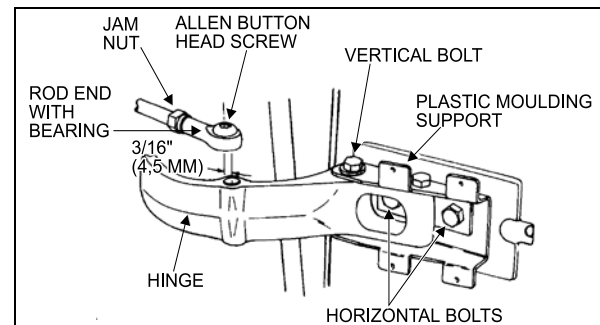

FIGURE 27: UPPER DOOR HINGE
2. Remove the Allen button head screw and the washer retaining the rod end with bearing to the upper hinge. See Figure 27.